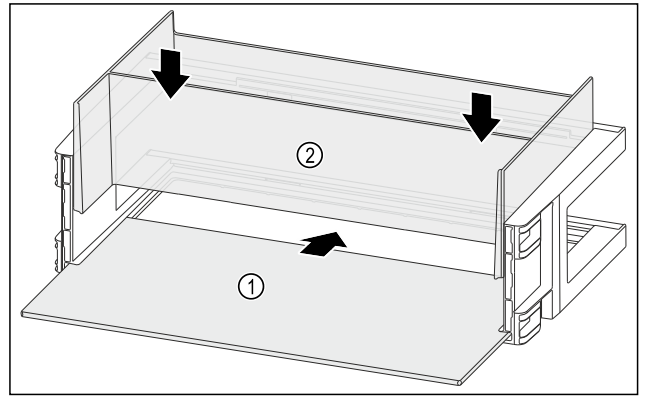

Fig. 94
- Push the shelf Fig. 94 (1) into the side recesses.
- Insert the organiser Fig. 94 (2).